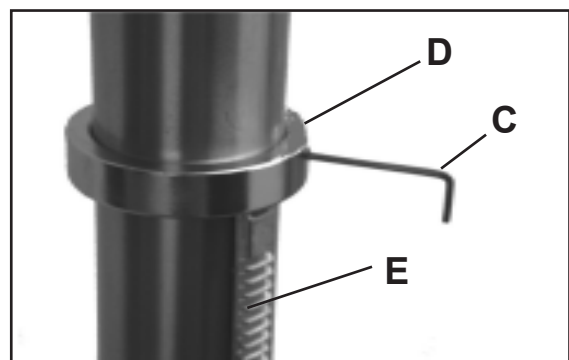

Figure 2
3. Using an Allen wrench (C-Fig. 2), make sure that the gear rack (E-Fig. 2) is secure in the column collar (D-Fig. 2).